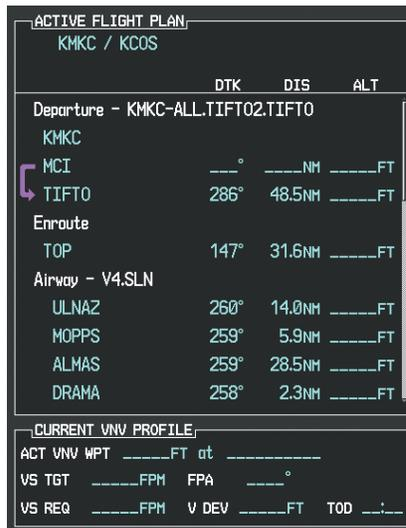

Figure 5-118 V4 is Loaded in the Flight Plan
l) V4 is now loaded into the flight plan as shown in Figure 5-118.